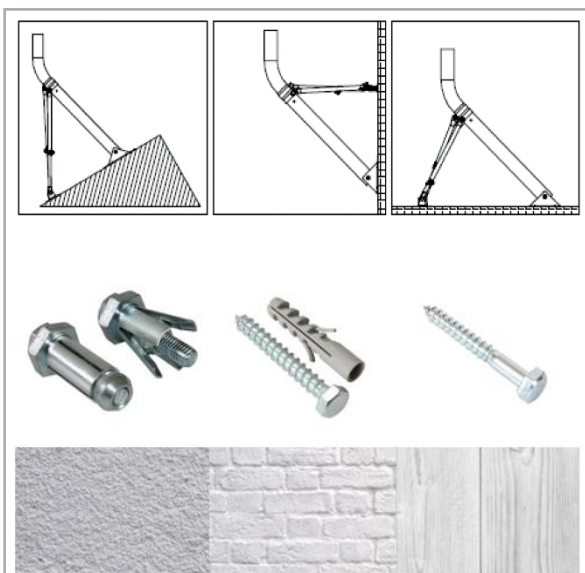

Figure 9
Step 8: Fix the mast using 5CM M8-Bolts adapted to the wall type (fig. 9). Example: Expansion / Anchor Bolts (Concrete), Rawplugs (Brick), Screws (wood).
NOTE: the Trimast allows horizontal, vertical and sloped configurations (fig. 9)